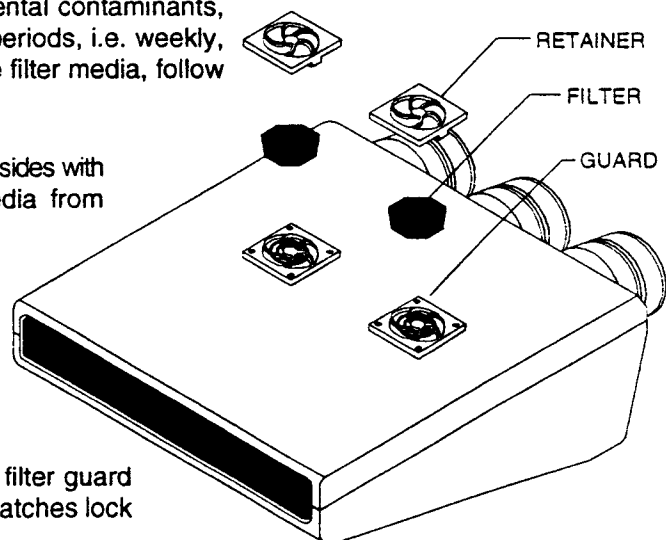

FIGURE 10-1. BOTTOM FANS/FILTER.
- STEP 1. Remove the filter retainer by pulling the sides with the catch apart, then remove the filter media from between the retainer and the guard. Refer to Figure 10-1.